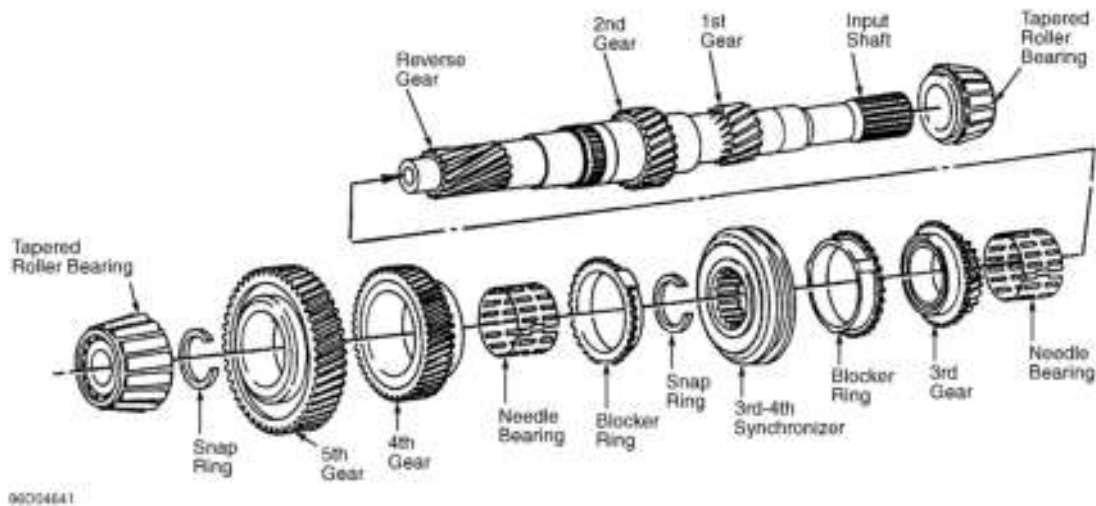

Fig. 8: Exploded View Of Input Shaft Assembly
2. Remove snap ring and 3rd-4th gear synchronizer assembly. See **Fig. 8**. Remove 3rd gear, needle bearing and synchronizer blocker ring from shaft. Using a press and split clamp plate, remove tapered roller rear bearing from 1st gear end of shaft.
1. Using appropriate driver, press tapered roller rear bearing onto 1st gear end of shaft. Install 3rd gear, needle bearing and synchronizer blocker ring onto shaft. Install 3rd-4th gear synchronizer assembly with short collar facing out. Install NEW synchronizer snap ring. See **Fig. 8**.